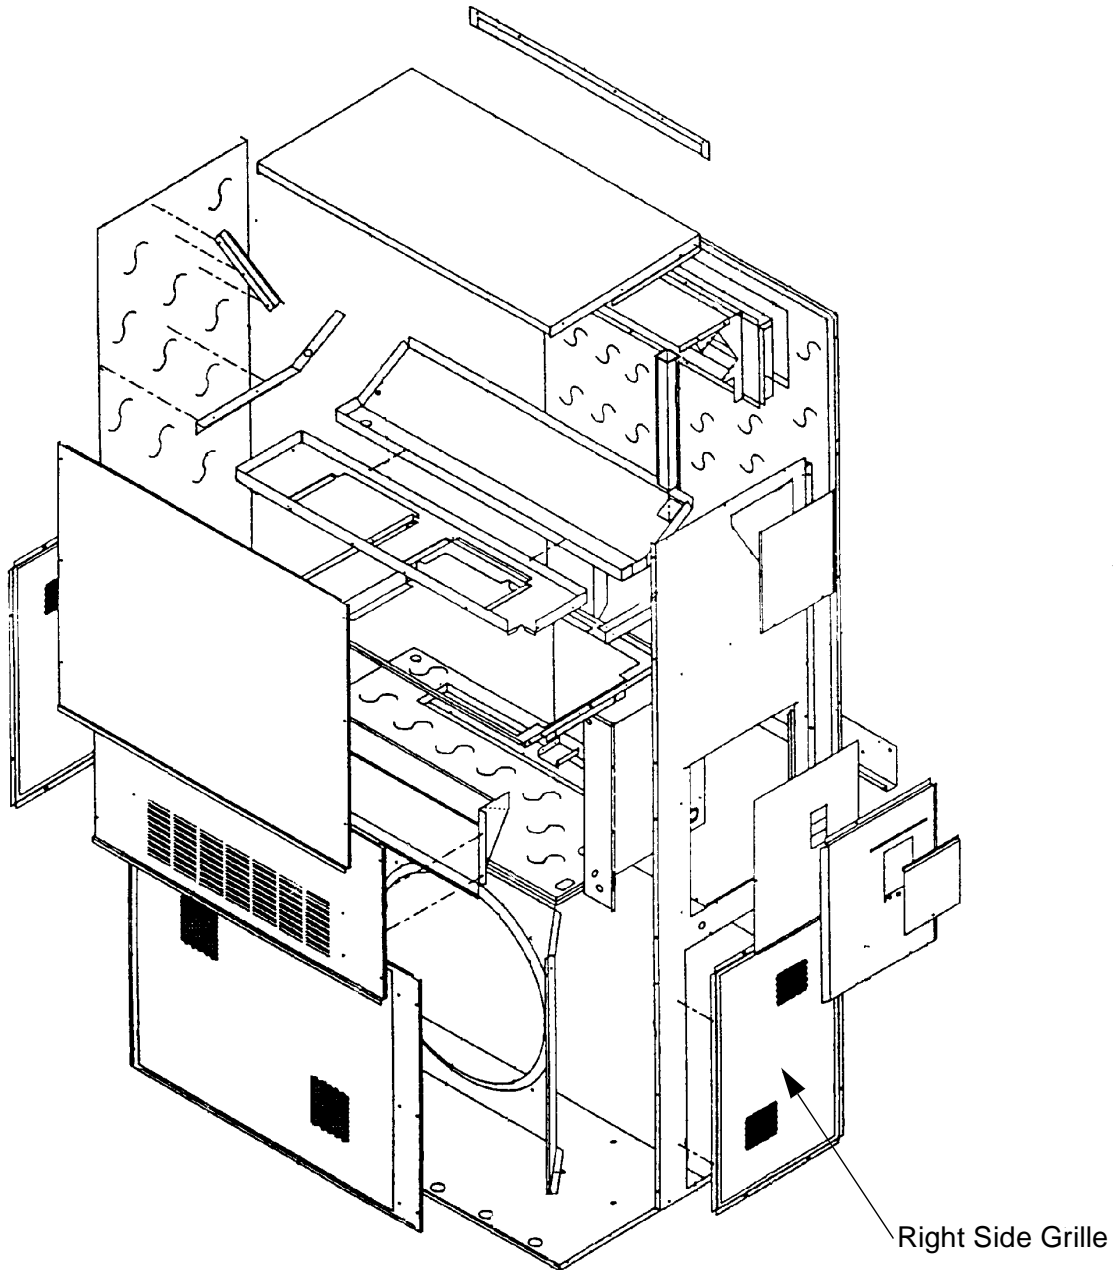

Figure 1. Outside Component Layout
- a. At the Radar Data Acquisition (RDA) Equipment Shelter (Main) Power Distribution Panel (UD7A2), remove power to the Bard air conditioner units by turning **OFF** circuit breakers CB 2, 4, 6 (ganged) for air conditioner (AC) unit #1, and CB 12, 14 and 16 (ganged) for AC unit #2.
- a. Remove the lower right side grille by removing the (8) eight screws using a 5/16-inch nut driver. (See Figure 1).